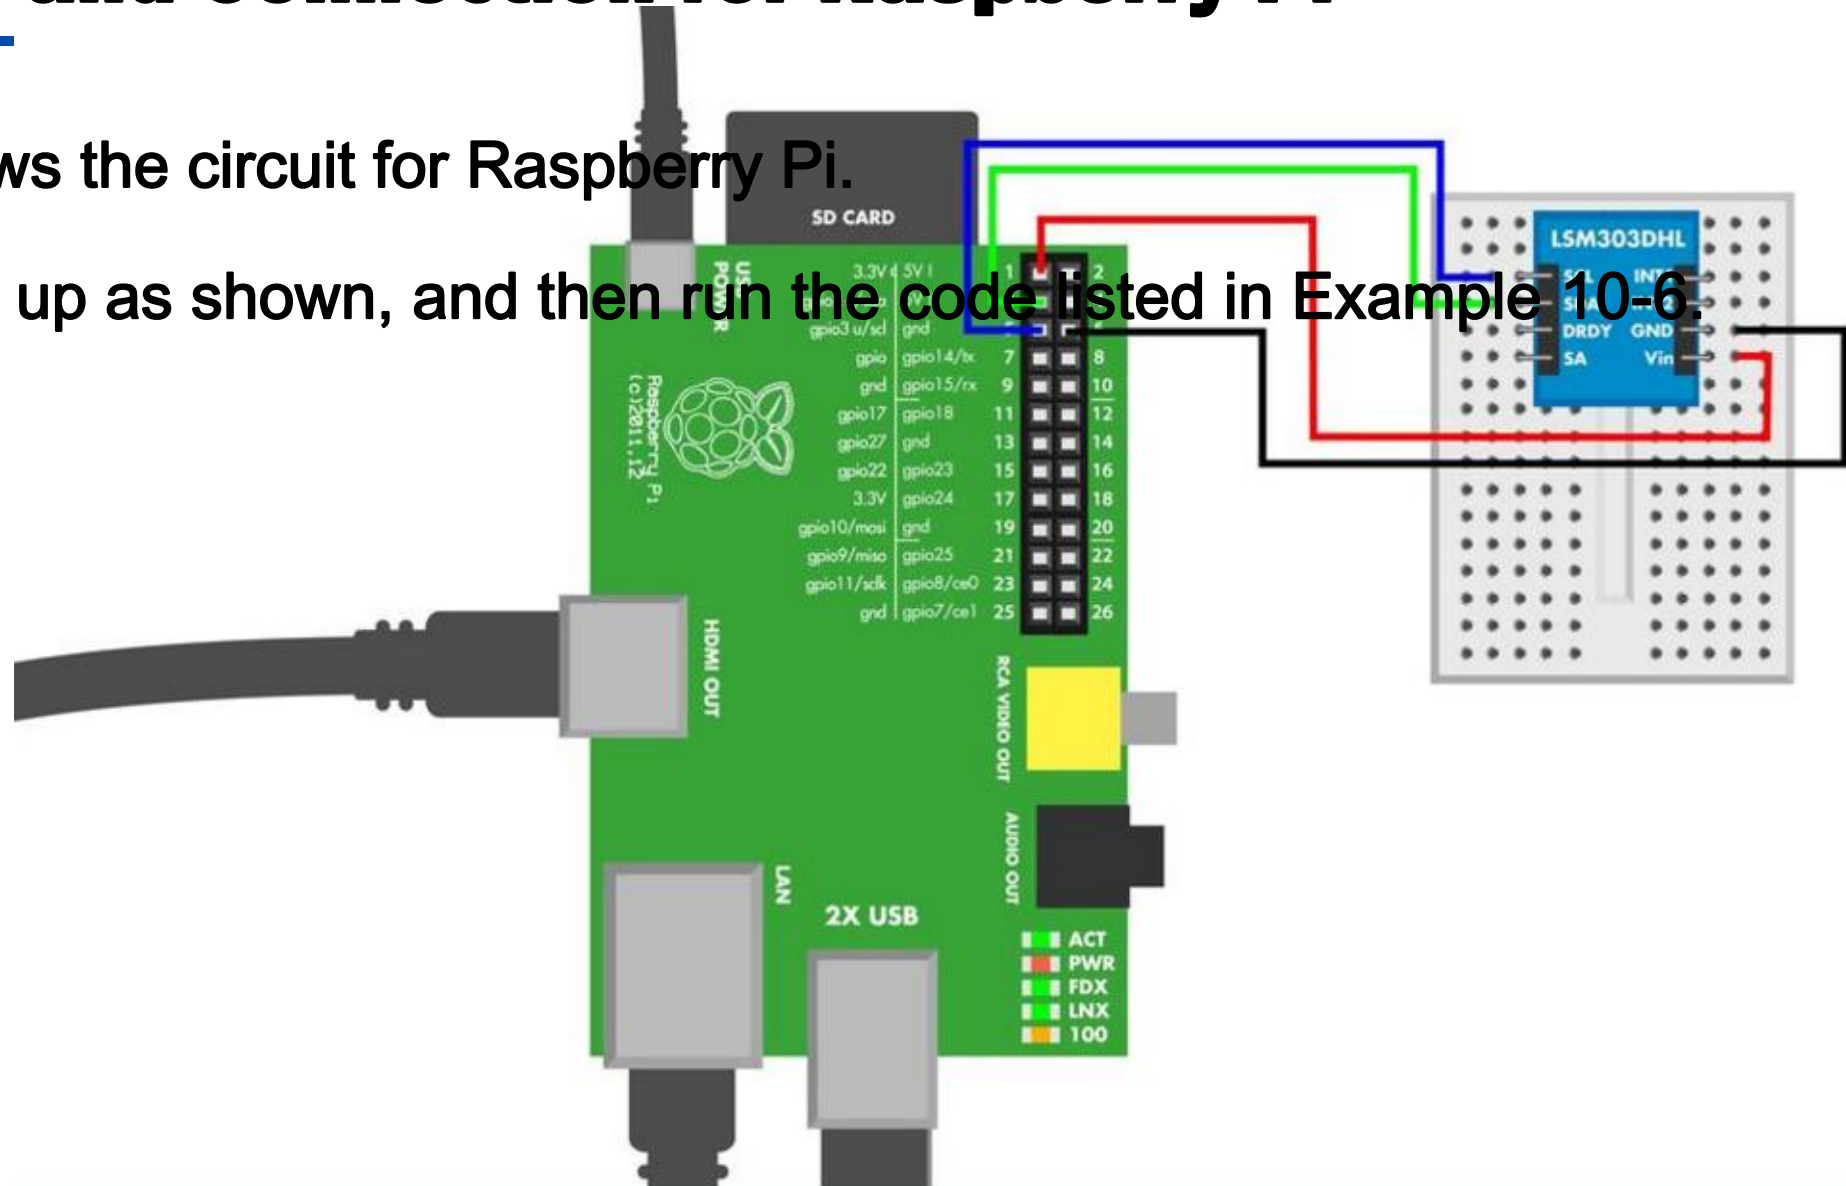

Figure 10-8. LSM303 compass-accelerometer circuit for Raspberry Pi
- Figure 10-8 shows the circuit for Raspberry Pi.